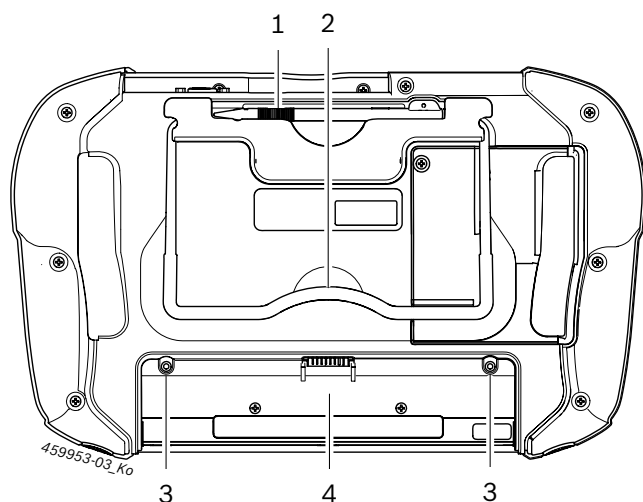

Fig. 3: Underside of D750
➤ Insert the storage battery in the storage-battery compartment and secure using the two screws on the storage battery (see fig. 3, item 3).